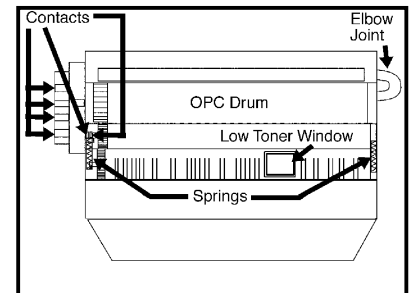

Figure 2
11. Start on the toner unit by detaching the end of each spring (located on the left and right sides) on the unit (rear portion of springs are captive Fig. 2).